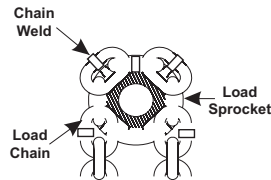

fig.3B
7. Install chain by running a piece of wire or string between chain guide roller and load sprocket and then over and around the load sprocket. Tie the chain to the wire or string and pull it into the hoist so that the first link is standing on edge in one of the slots of the load sprocket, with the weld away from the sprocket (see fig.3B). Shift the direction knob to neutral position and rotate hand wheel clockwise until the load chain in the load sprocket. Remove the cotter pin from the slack end pin and slide the pin to one side. Pull the end of the chain under the chain guide roller and hook the last link over the slack end pin, being sure the chain is not twisted. Slide the slack end pin back into position and install the cotter pin through it.